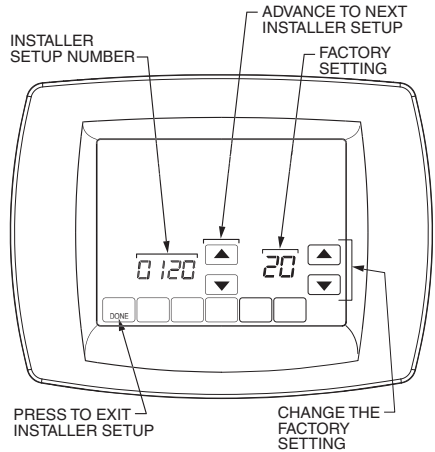

Fig. 8. Installer Setup Start Screen
4. Release the two blank keys when the screen on the Comfort Control matches the screen in Figure 8.
5. See Figure 8 to review how the Comfort Control keys are used during Installer Setup. See Table 4 for the Installer Setup Numbers and Settings.